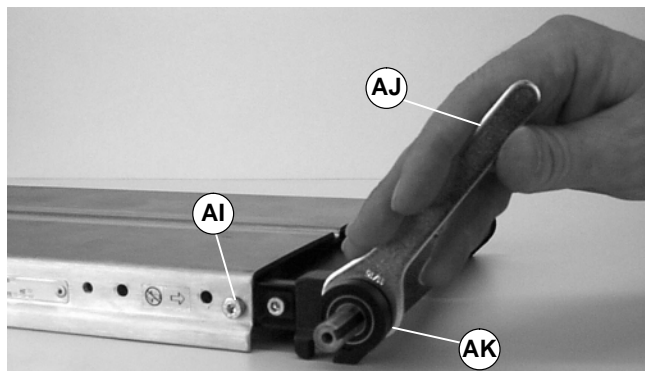

Figure 29
2. For 10" (254 mm), 12" (305 mm) or 18" (457 mm) wide conveyors, use the narrow-headed 11/16" wrench (part # 807-1043) (AJ of Figure 29) to remove the outboard bearing (AK).
3. Remove screw (AI).